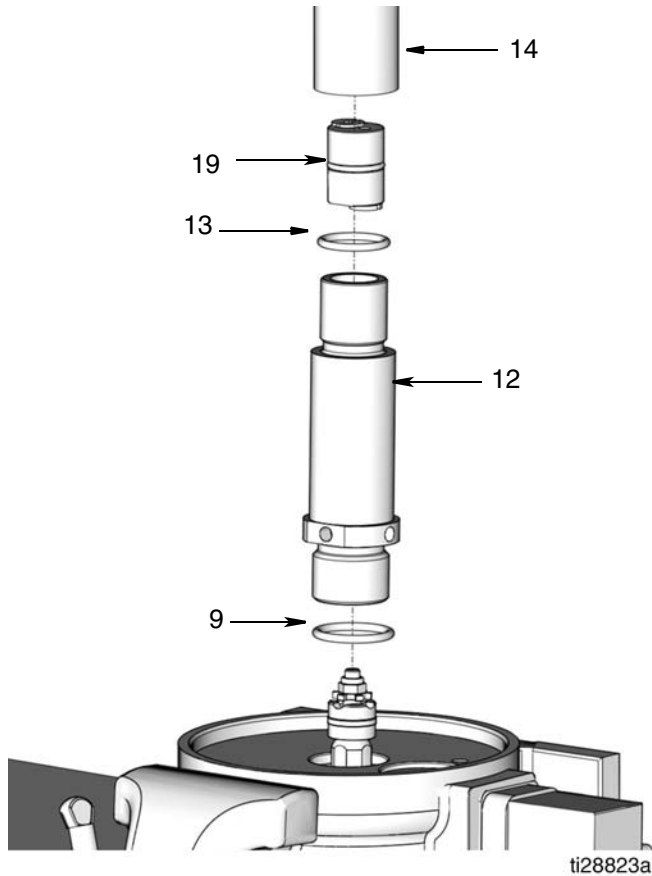

FIG. 17
14. Remove o-ring (13) from outlet tube (14). Remove o-ring (9) from pump cylinder (12). Dispose of o-rings according to all regulations for proper disposal (FIG. 17).